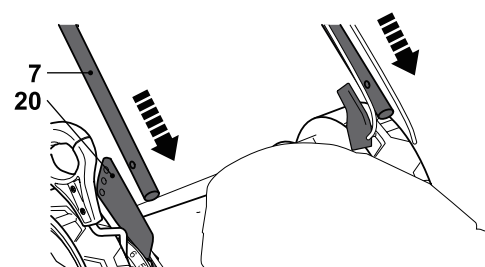

Fig. 2
4. Align the lower handle bar (7) with the handle support (20). Make sure the holes in the lower handle bar are aligned with those in the support (Fig. 2).